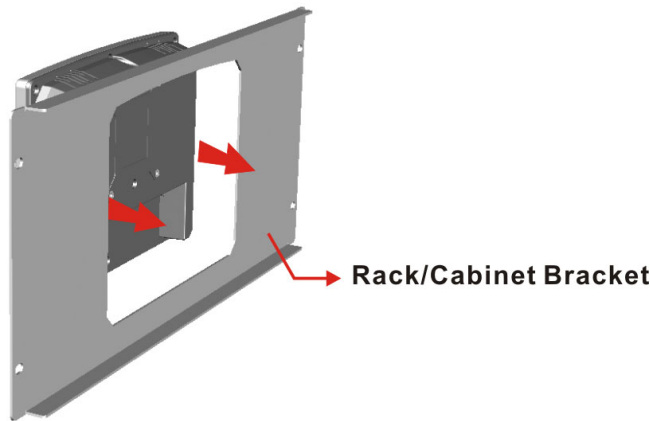

Figure 3-19: Rack/Cabinet Bracket Installation
- Step 1:** Slide the rear chassis of the AFL3-W15B-H81 flat bezel panel PC through the rack/cabinet bracket until the frame is flush against the front of the bracket (Figure 3-19).